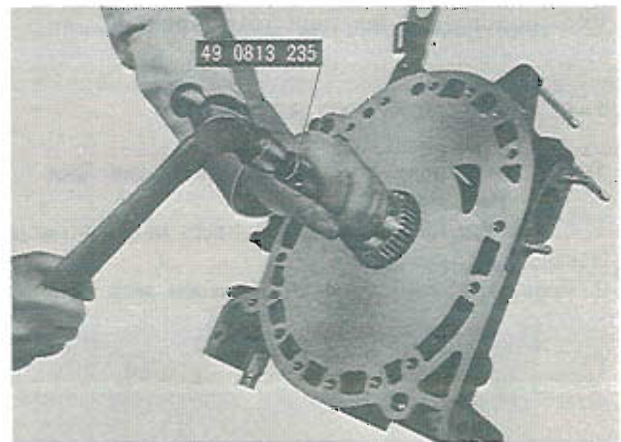

Fig. 1-31 Removing stationary gear assembly
- 1) Remove the stationary gear and main bearing assembly from the housing, using the **main bearing replacer** (49 0813 235), shown in Fig. 1-31.